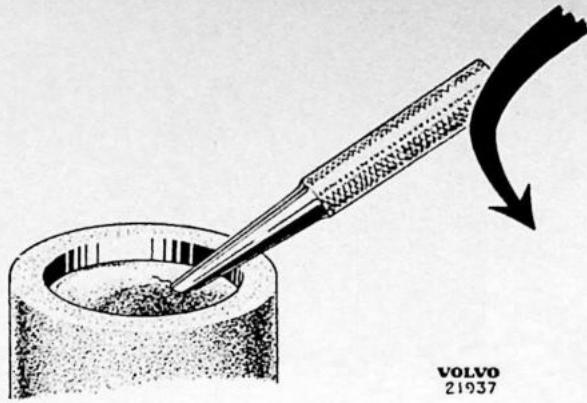
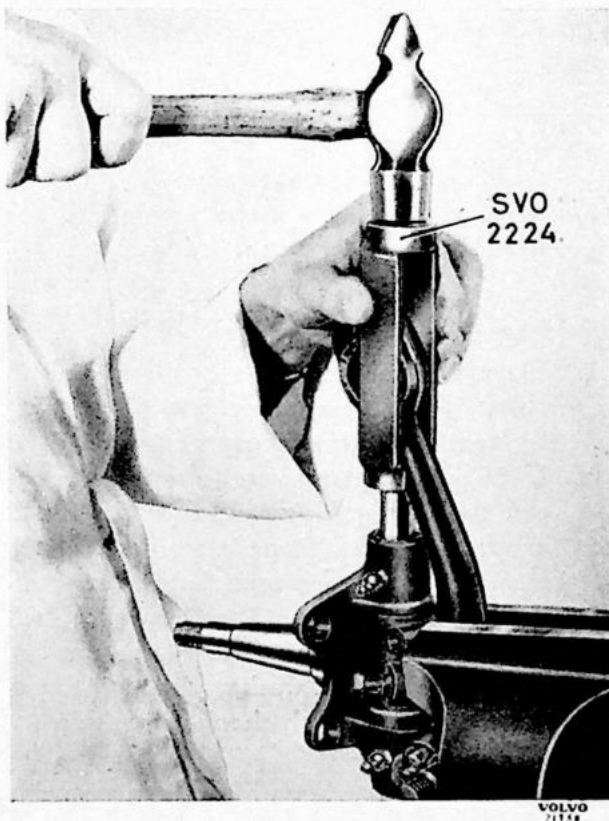

Fig. 12. Removing seal washer.
Fig. 13. Removing king pin.
8. Remove the key with a drift. Remove the seal washer with a sharp drift, fig. 12. Drive out the king pin downwards with tool SVO 2224, see fig. 13. Use extension sections as required.